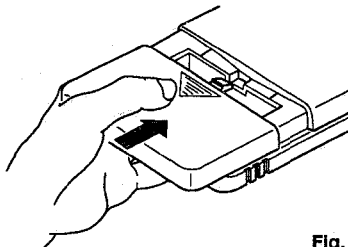

Fig. 9
3. Reinstall the rear cover of the remote control unit. Slide the rear cover back as shown in Fig. 9.